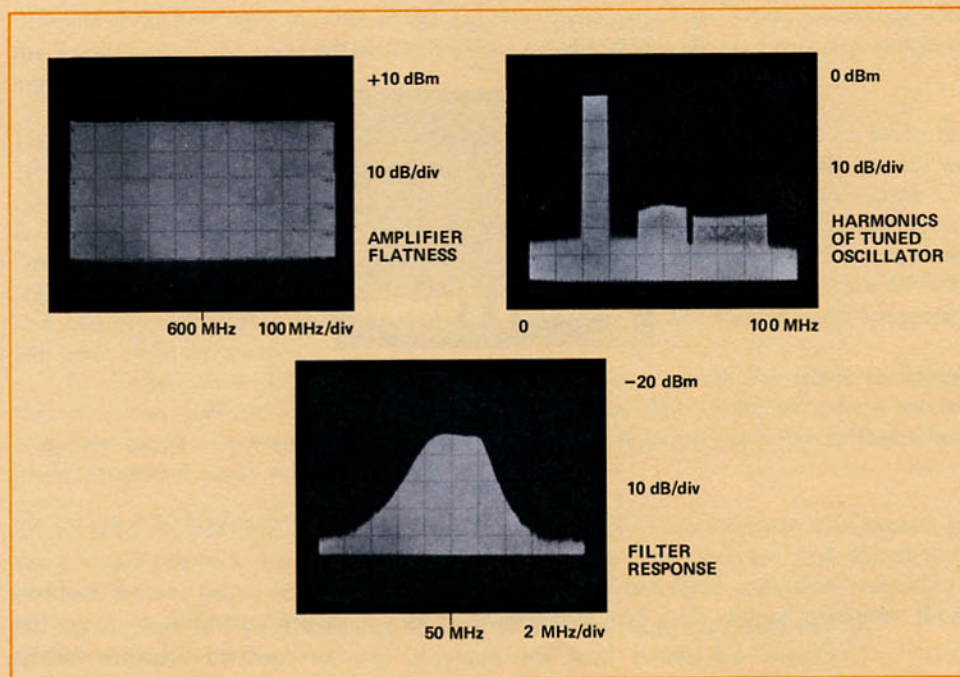

Figure 1.7
5. The swept frequency response of a filter or amplifier and the swept distortion measurement of a tuned oscillator are examples of swept frequency measurements possible with a spectrum analyzer, as shown in Figure 1.7. These measurements are simplified by using a variable persistence display or a tracking generator which will be described later.